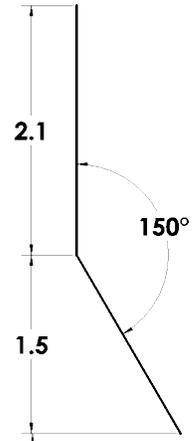

Fig. 4
Step 8. Sketch a **horizontal centerline** from the Origin, **Fig. 4**.